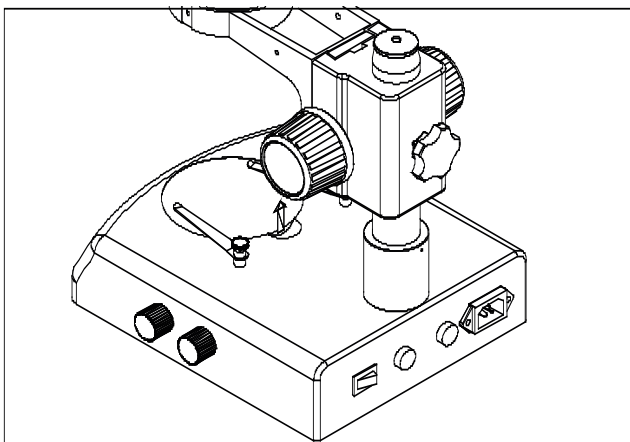

Fig. 1
- 1.1) Press the glass stage on the sunken place then the other side of the glass stage will be lifted. (Fig. 1)